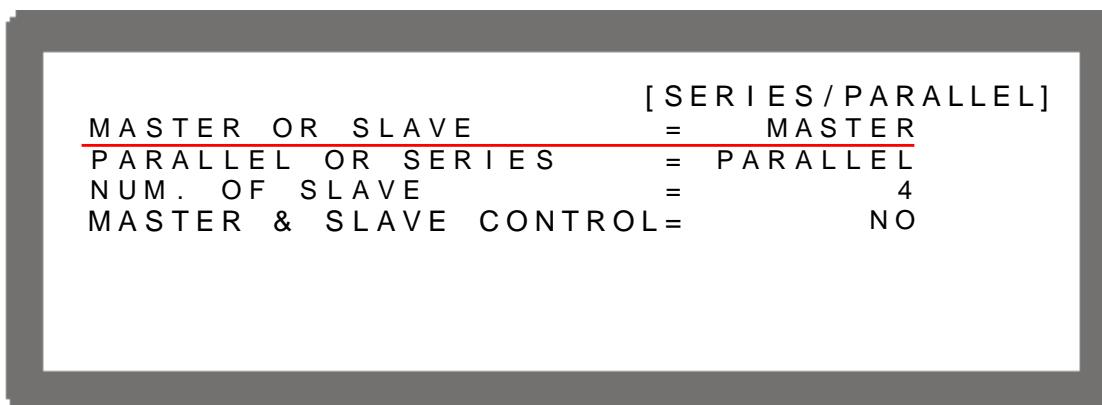

Figure 3-36
- In Config Setup page, press “**3**” and “” to select PARALLEL /SERIES and display Figure 3-36.